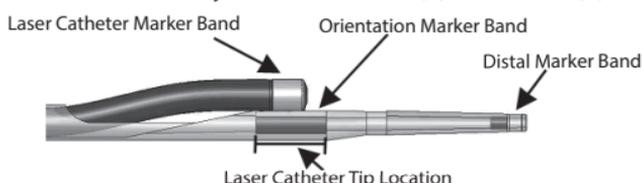

Figure 3. The Turbo-Tandem System Tip Location in the Extended Position
- Do not extend the laser catheter distal tip band beyond the orientation marker band of the Turbo-Tandem System (Figure 3). This may result in damage to the device tip.
- If the catheter advances beyond or behind the orientation marker while lasing and advancing the system, stop and re-assess before continuing (Figure 3). Continuing to advance the system or lase may result in damage to the tip of the catheter.